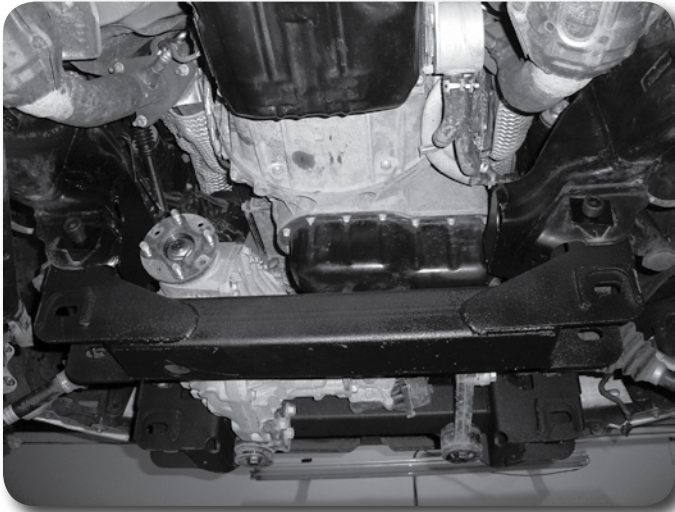

Figure 32
39. Install the new rear crossmember in the rear lower control arm pockets **Figure 32**. When installing the crossmember, align the captive stud on the rear differential bracket with the mounting hole in the crossmember. Fasten the crossmember to the frame with the provided 18mm x 170mm bolts and (2) rectangle cam washers (set with small hole). Run the bolts from rear to front. Install the remaining (2) cam washers on the bolt but do not install the nut.